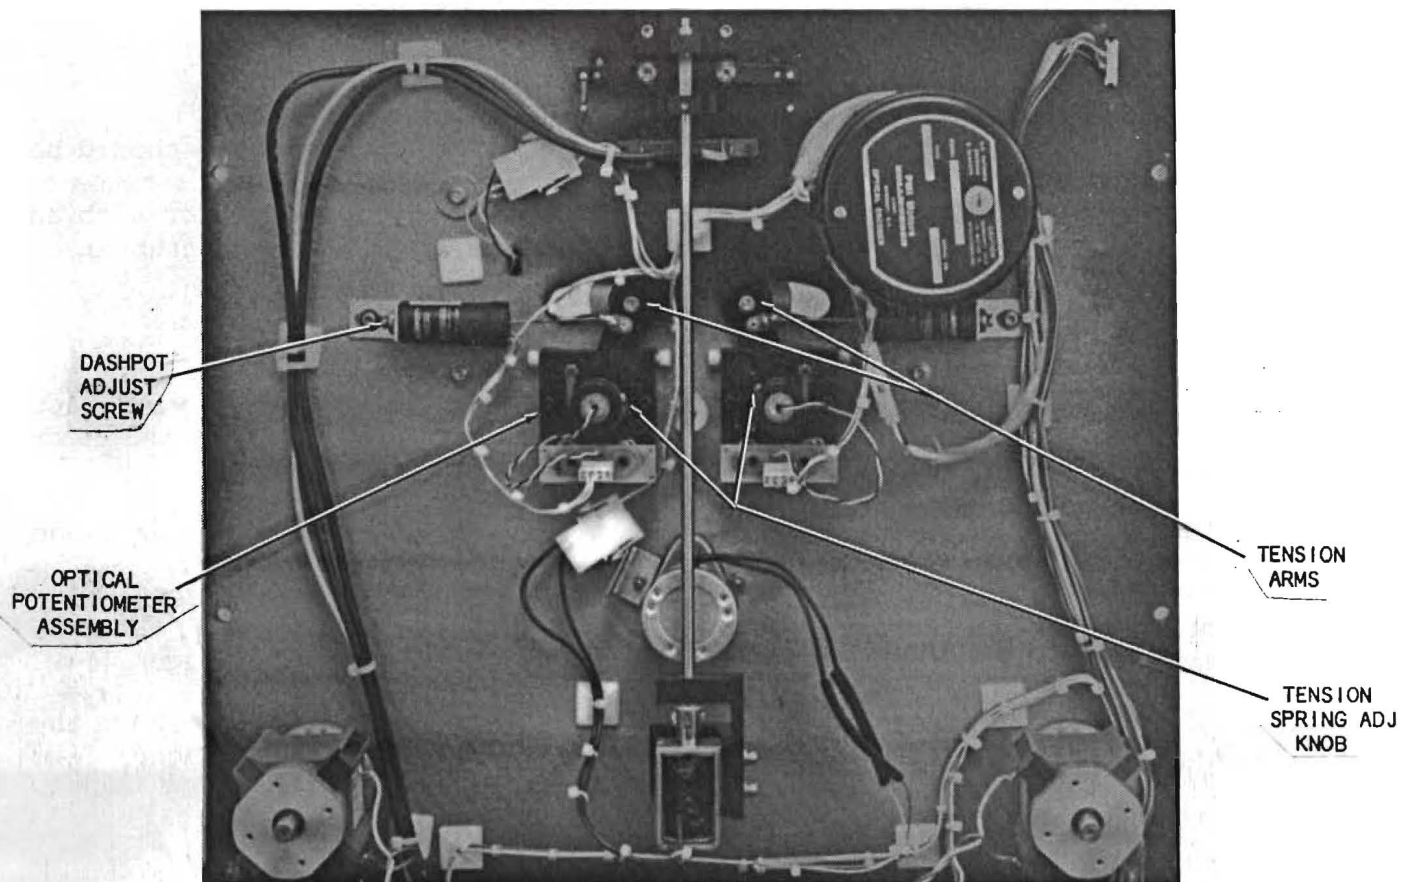

Figure 4-3, Tension Arm Spring and Dashpot Adjustment
4. Locate the knurled tension spring adjustment knob under the supply sensor arm (Figure 4-3). Determine the direction of the required adjustment: clockwise = less; counterclockwise = more. Loosen the setscrew and move the knob slightly in the required direction. Tighten the setscrew and remeasure tension per step 1.